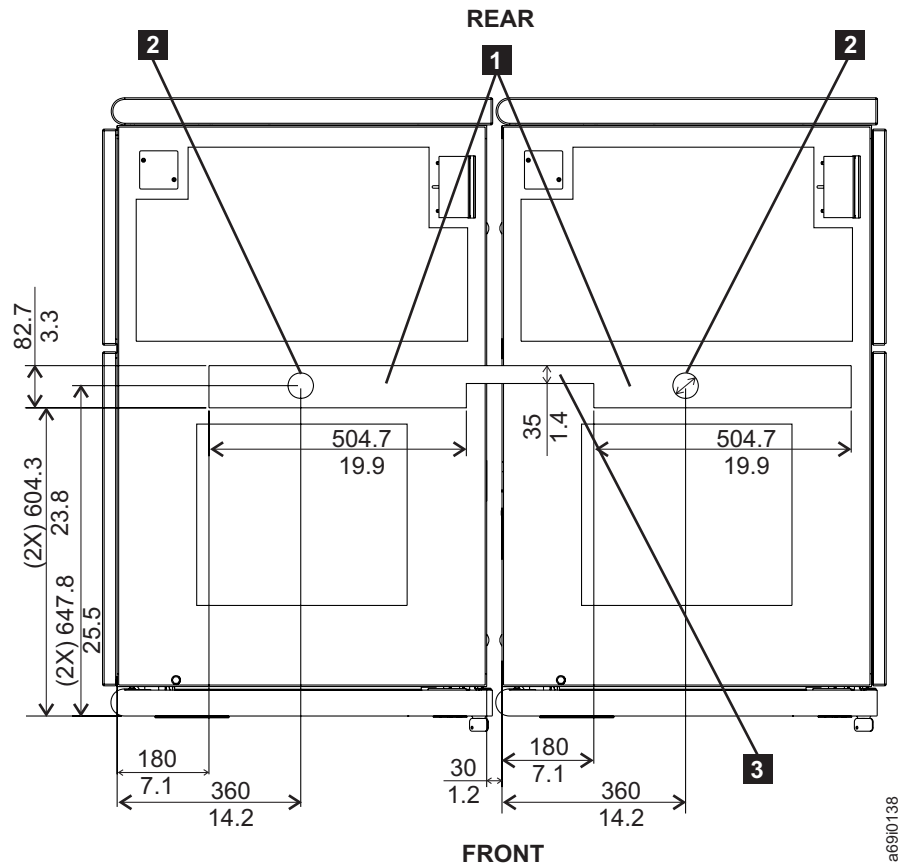

Figure 22. Allowable area for mounting fire-suppression equipment (top view of Models L22, D22, L23, D23, L52, D52, L53, D53, or the HA1 frame)
Each L22, D22, L23, D23, L52, D52, L53, D53, and HA1 frame in the 3584 Tape Library has an allowable area on the top that may be cut to allow entrance of pipes, conduits, or other parts (see **1** in Figure 22 on page 88). The area is 82.7 mm (3.3 in.) wide by 504.7 mm (19.8 in.) long. The equipment can extend through the top cover for a maximum intrusion of 175 mm (6.9 in.).
2. Models L22, D22, L23, D23, L52, D52, L53, D53, and the HA1 frame are equipped with a single perforated receptacle (**2** in Figure 22 on page 88) in diameters of both 30 mm (1.2 in.) and 50 mm (2.0 in.).
Within the frame, a depth of 175 mm (6.9 in.) is available for installing pipes, sensors, sprinklers, or other components. Piping, conduits, and cabling can be run from frame to frame only if they stay within an allowable area (see **3** in Figure 22) and do not interfere with library components.